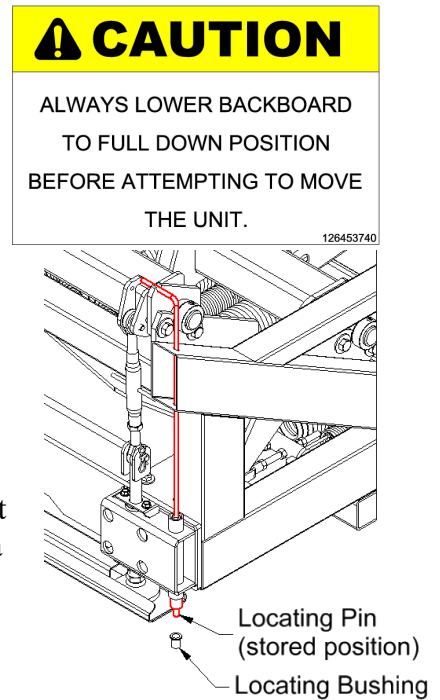

Figure 33
- a. Remove the Turnbuckle pin, loosen Locking Turnbuckle and swing it vertically down to the stored position and insert Pin as shown in figure 33.
- a. Lift the Locating Pins and hook in the stored position as shown in figure 33.